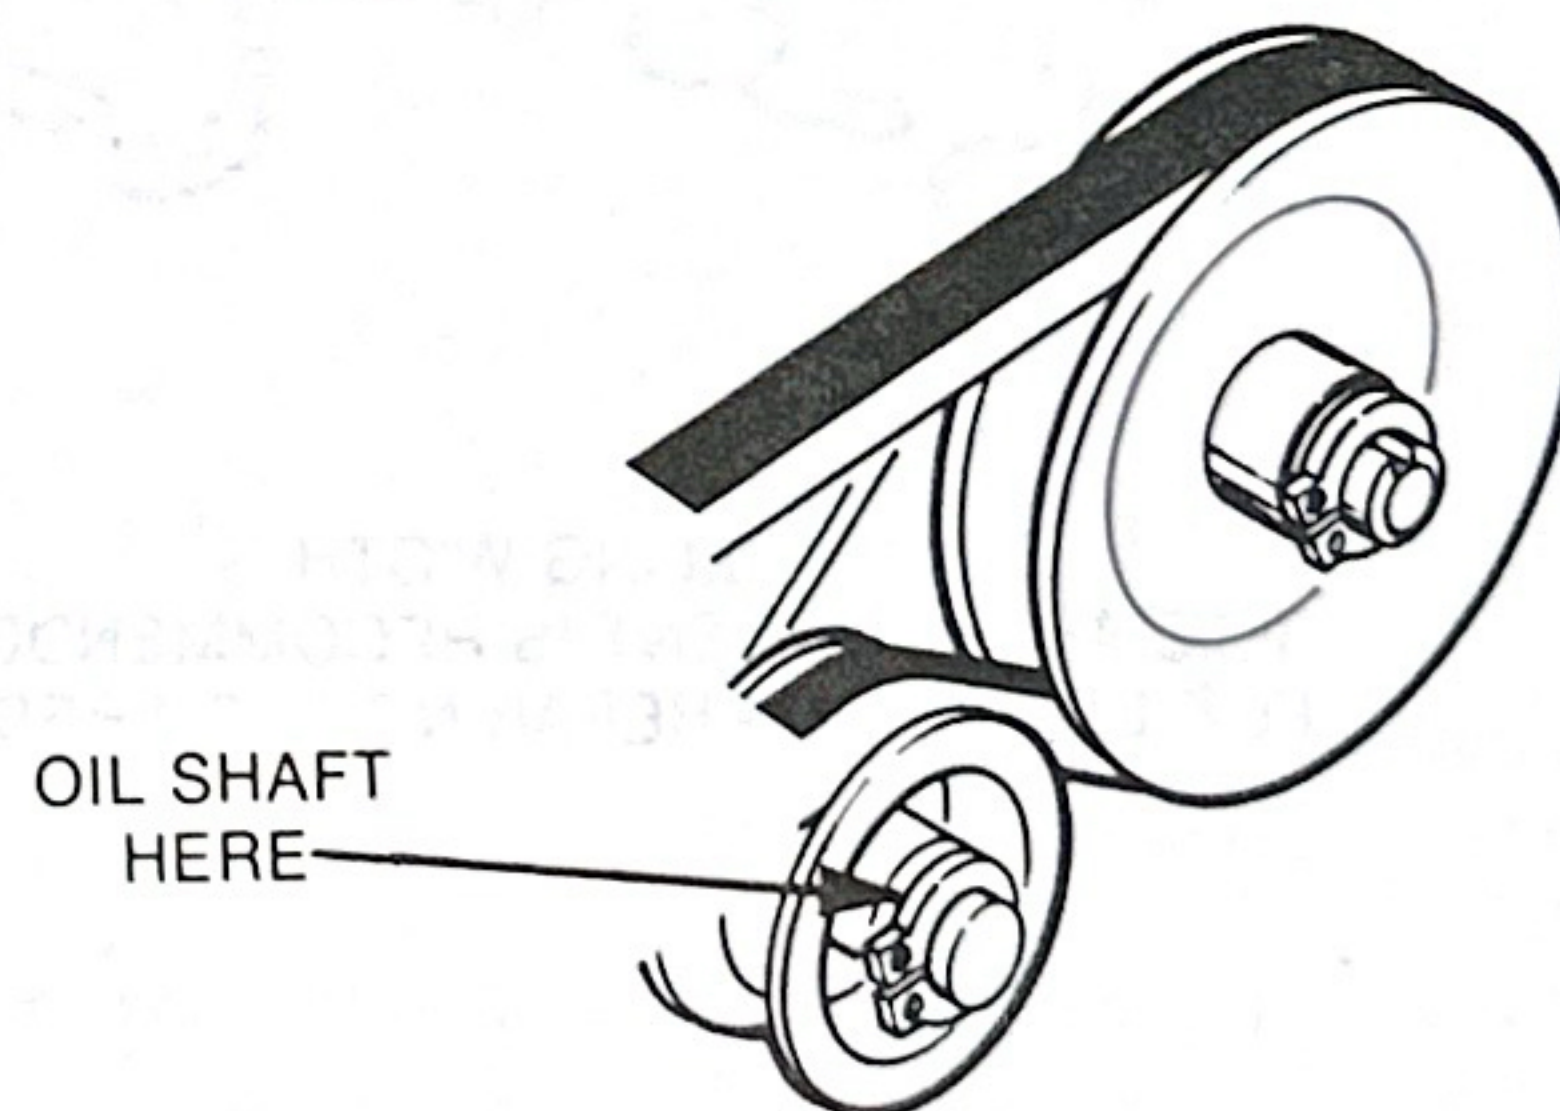

FIG. 16
3. **Idler Pulley Shaft** — Oil shaft, Fig. 16, once a season for average home use using SAE 30 wt. oil. Turn idler pulley while oiling to distribute oil evenly. Note: Be careful not to get any oil onto the belt.